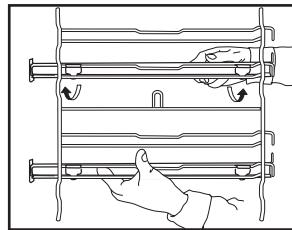

Fig. 3
3. Hang the upper part of the sliders on to the holder grills. Make sure the telescopic runners can move freely to the front of the oven. Then press the lower part of the sliding shelves firmly against the holder grill until they click into place (Fig. 3).